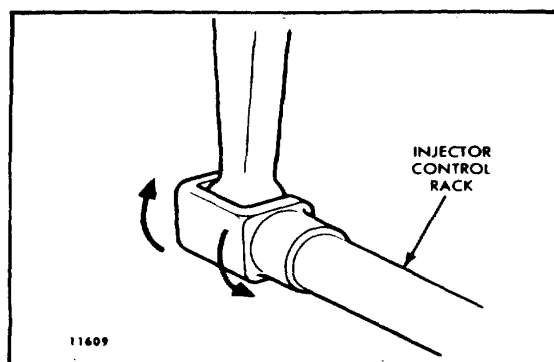
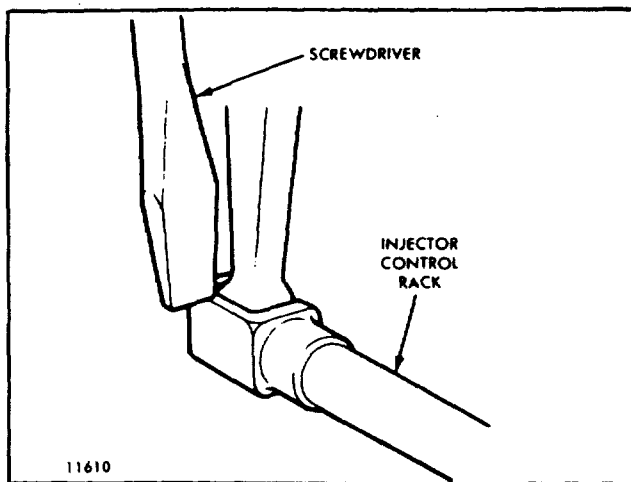

Fig. 4 -Checking Rotating Movement of Injector Control Rack
Fig. 5 - Checking Injector Control Rack "Spring"
6. To be sure the control lever is properly adjusted, hold the speed control lever in the maximum speed position and press down on the injector rack with a screw driver or finger tip and note "rotating" movement of the injector control rack (Fig. 4) when the speed control lever is in the maximum speed position. Hold the speed control lever in the maximum speed position and, using a screw driver, press downward on the injector control rack. The rack should tilt downward (Fig. 5) and when the pressure of the screw driver is released, the control rack should "spring" back upward.